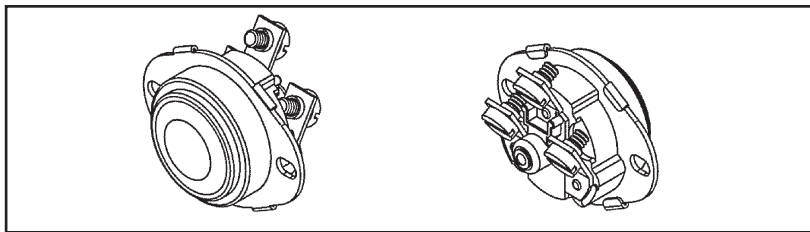

Figure 3 - Existing (old) switch style
4. For comparison, see the existing style switch shown in Figure 3.